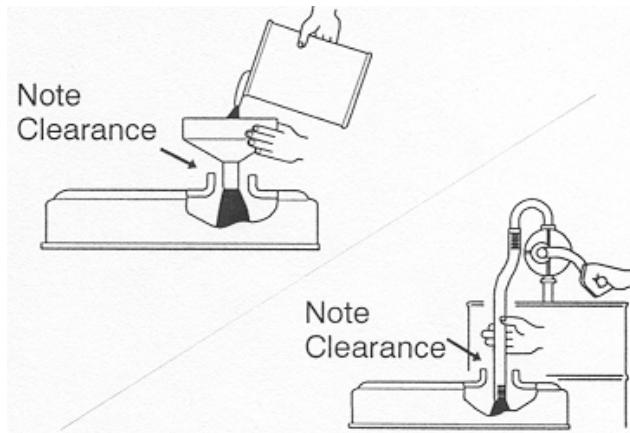

Figure 15
**Important** When adding engine oil or filling oil, there must be clearance between the oil fill device and the oil fill hole in the valve cover as shown in figure 15. This clearance is necessary to permit venting when filling, which prevents oil from overrunning into breather. Failure to follow this procedure may cause serious engine damage